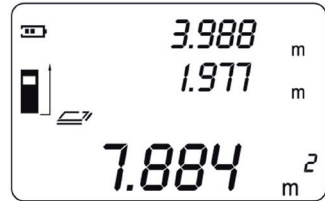

Fig. 10
7. Press the Read button again to display the area unit on the bottom line of the screen; the width is simultaneously displayed on the second line (fig. 10).